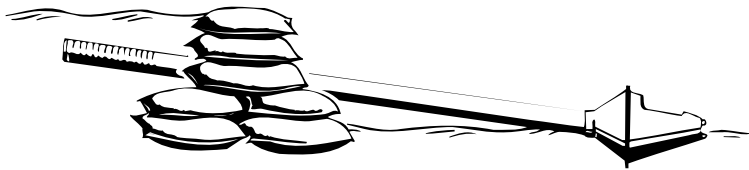

figure 26
1. Hessian bags filled with sand and cement (dry for ease) can be stacked and molded into position, they will set well with very little cement seepage downstream. (see figure 26)